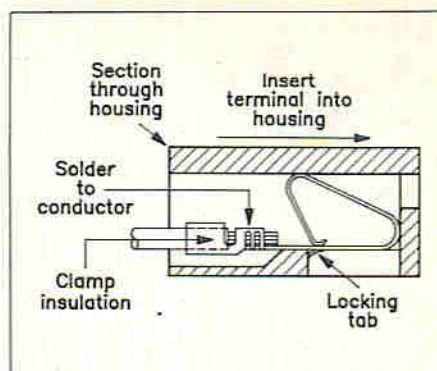
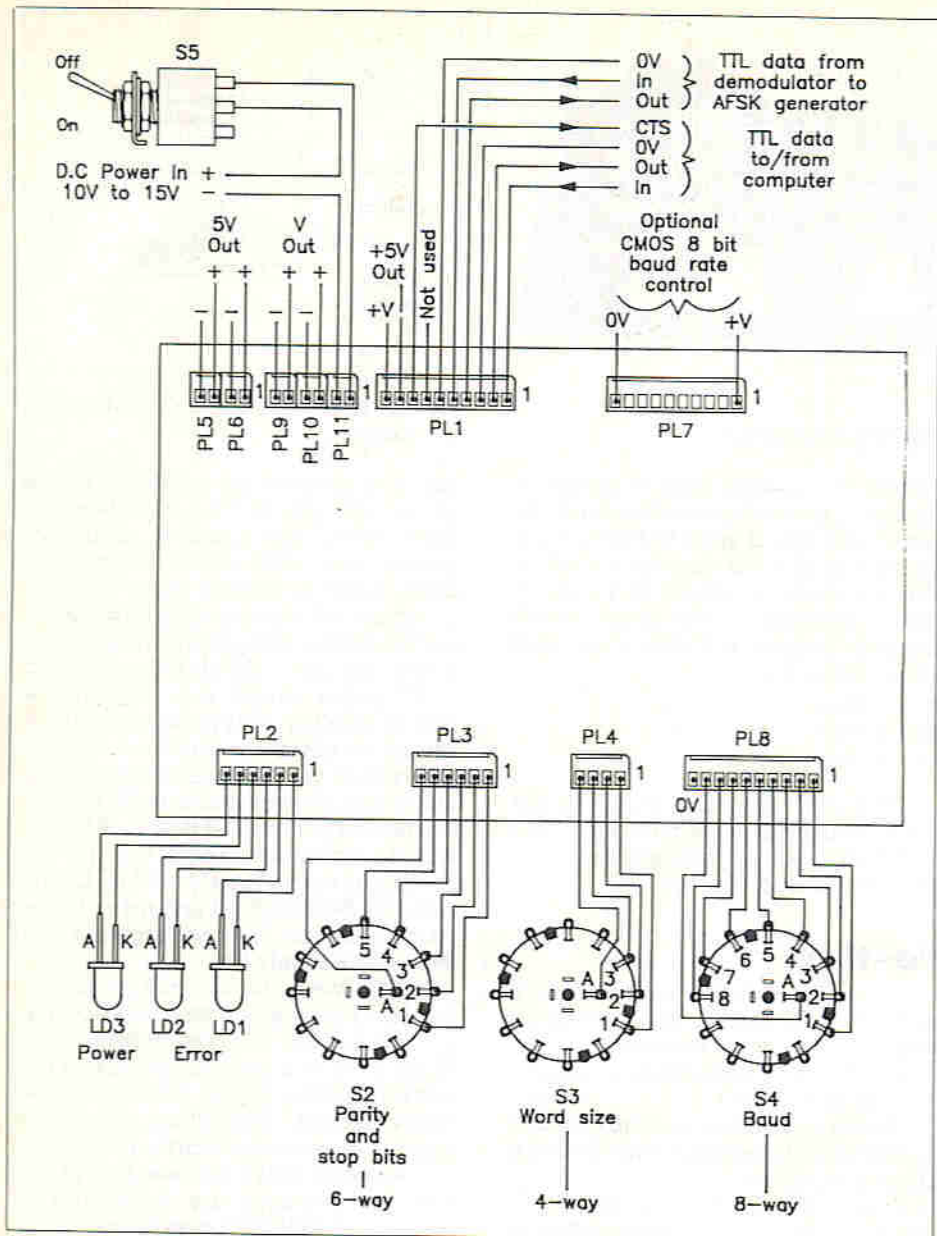
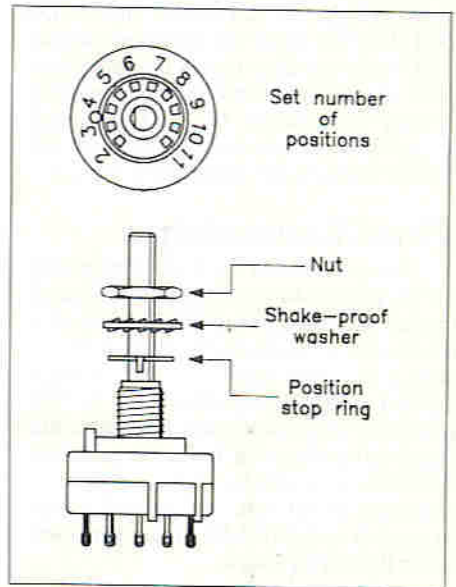
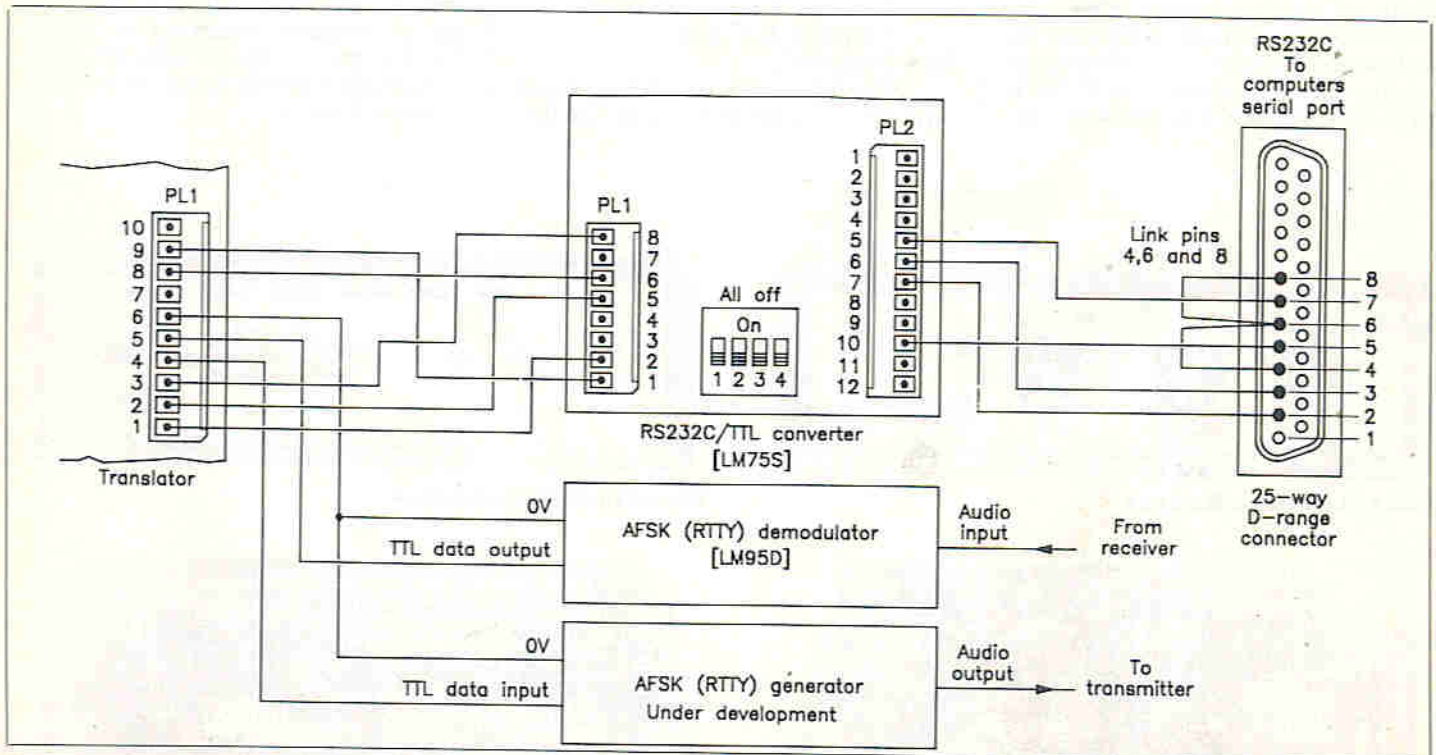

Figure 4. Fitting and Inserting the 'Minicon' Terminals.
Figure 5. Wiring Diagram.
Figure 7. Setting the Number of Ways on a Rotary Switch.
Figure 6. TTL to RS232C Wiring Diagram.
method of installing them is shown in Figure 4. A wiring diagram showing all the interconnections is given in Figure 5 and the additional wiring for the RS232C to TTL converter is shown in Figure 6. Finally, referring to the rotary switch assembly diagram in Figure 7 set each switch as follows:
5. Check the wiring to your computers serial port, see Figures 5 and 6.